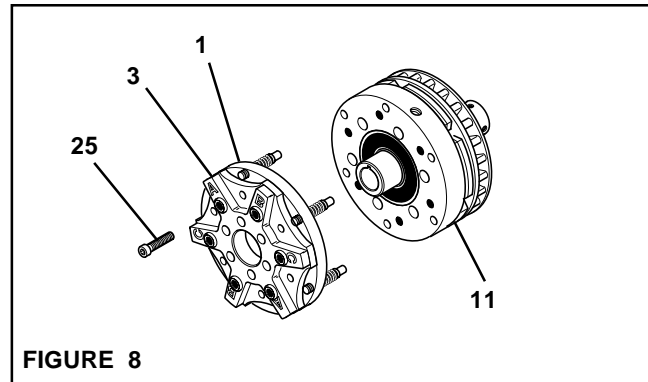

FIGURE 8
4. Remove the six Socket Head Cap Screws (Item 25) (See Figure 8).
5. Remove the Endcap (Item 3) and Cylinder (Item 1) (See Figure 8).